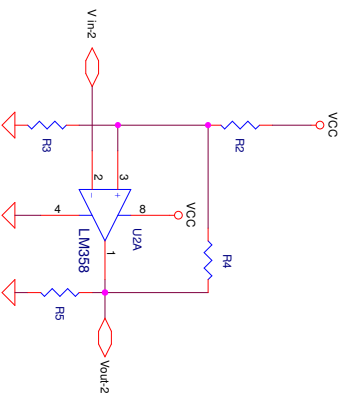

Fig. 10. Schematic of the comparator with hysteresis
a) **Power off the circuit.** Measure and identify the resistances R_2 , R_3 , R_4 , R_5 ($R_2 \approx 68\text{k}\Omega$, $R_3 \approx 27\text{k}\Omega$, $R_4 \approx 68\text{k}\Omega$, $R_5 \approx 68\text{k}\Omega$). Make the circuit in Fig. 10, on the test board (solderless). Connect the scope, CH1 at V_{in2} and CH2 at V_{out2} . At the input V_{in2} , apply, from the generator, a triangular signal with the frequency of 1kHz, the amplitude $A=2\text{V}$ and DC bias $A_{\text{mean}}=2\text{V}$ (Adjust DC bias from the **OFFSET** knob, from the generator, "pulled"). **Power on the circuit,** set $C_2 = 1\text{V/div}$, for CH1 and CH2, and the 0V level at one division above the bottom of the screen (for both channels). Draw the two waveforms, superimposed.
b) Using the voltage cursors, measure the levels of the output voltage, $V_{out2\text{H}}$, $V_{out2\text{L}}$, and the input voltages, corresponding to the two thresholds (U_{p1} and U_{p2}), $V_{in2\text{p1}}$ and $V_{in2\text{p2}}$. Compute the threshold voltages, U_{p1} and U_{p2} , using the relations (7).